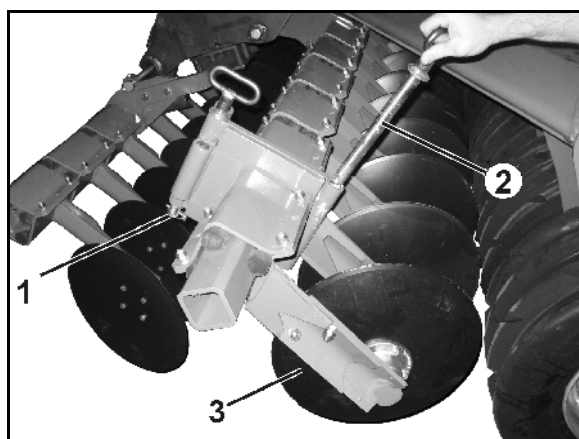

Fig. 72
9.1 Release the lynch pin (Fig. 72/1).
9.2 Pull out the locating pin (Fig. 72/2).
9.3 Fold down the side disc (Fig. 72/3) and secure in this position with the locating pin.